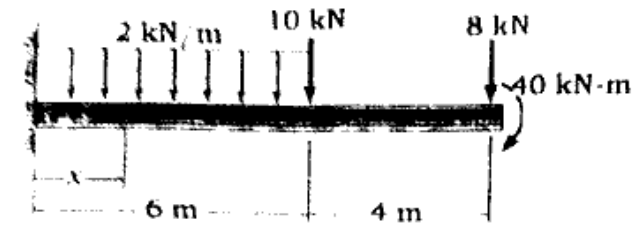

Fig. 6
9. Draw the shear and moment diagrams for the beam and determine the shear and moment throughout the beam as functions of  $x$  shown in Fig. 6.